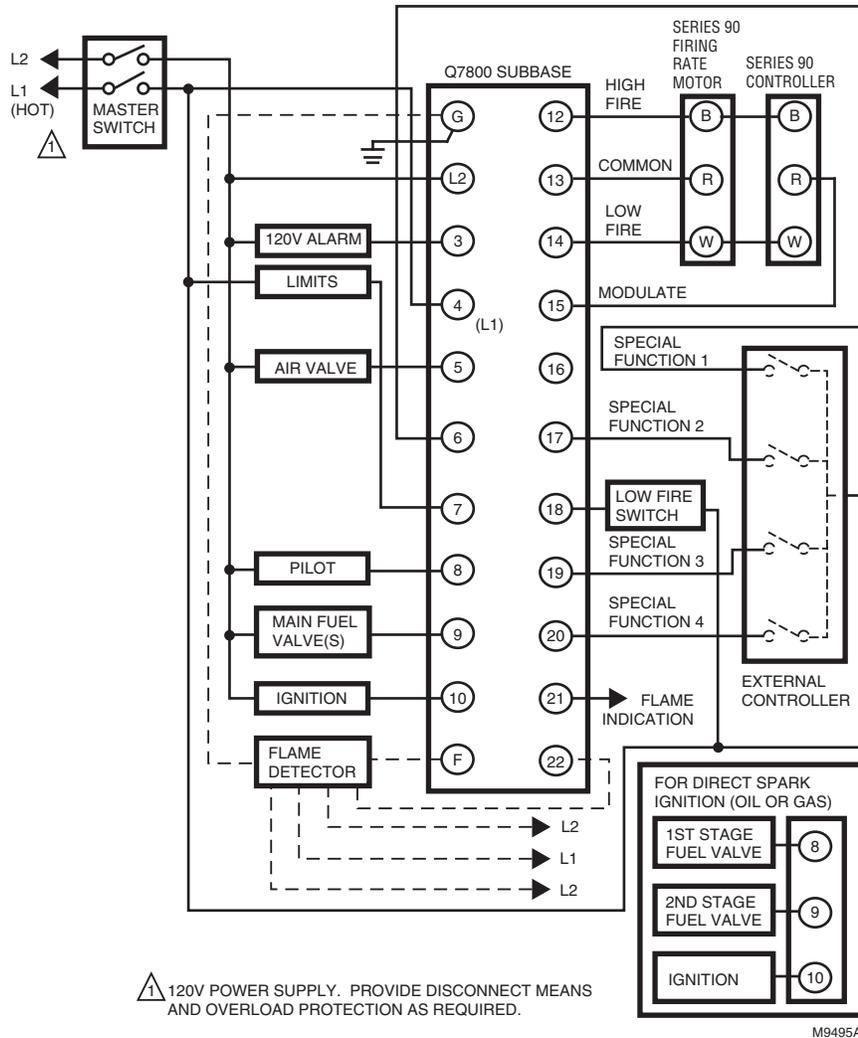

Fig. 11. RM7888A wiring diagram.
2. Wiring connections for the RM7888A are unique; therefore, refer to Fig. 11 or the correct specifications for proper subbase wiring.
- b. For proper subbase wiring, refer to Fig. 11.